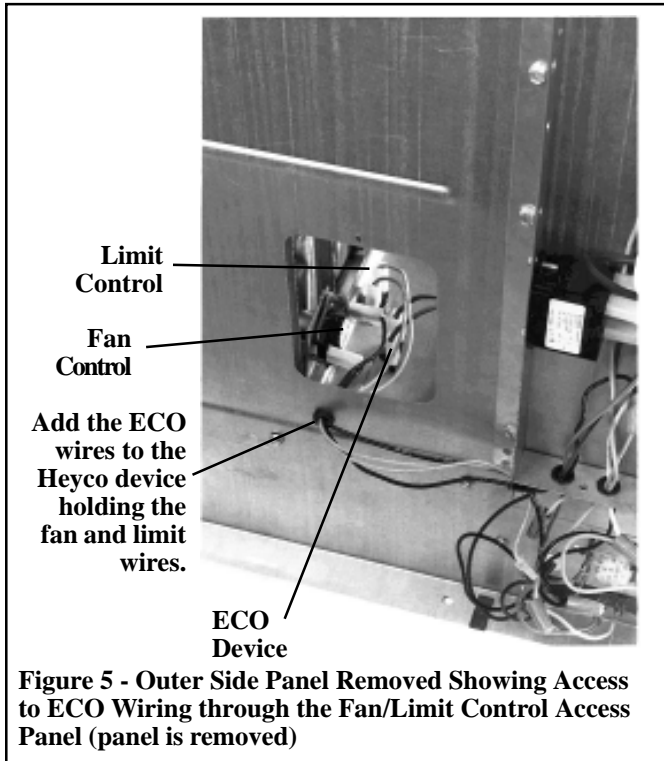

Figure 5 - Outer Side Panel Removed Showing Access to ECO Wiring through the Fan/Limit Control Access Panel (panel is removed)
- (1) On the rear of the heater (fan panel), remove the Heyco device (strain relief bushing) that holds the two red wires going through the fan panel. (These wires were disconnected from the gas valve in Step 2.)
- (2) On the side of the heater, remove the small fan/limit control access panel (See Figure 5). Reach through the access hole and pull both red wires completely through the fan panel into the heater where the ECO is located (See Figures 5). One of these wires will be used on the converted heater, but the other must be replaced with the longer red wire in the conversion kit. Carefully disconnect one of the wires from the ECO control and discard that wire. The red ECO wire in the kit has two different terminals. Connect the end with the straight insulated terminal to the ECO control.
- (3) Remove the Heyco device (See Figure 5) from the inner side panel. Add the two red ECO wires to the fan and limit wires